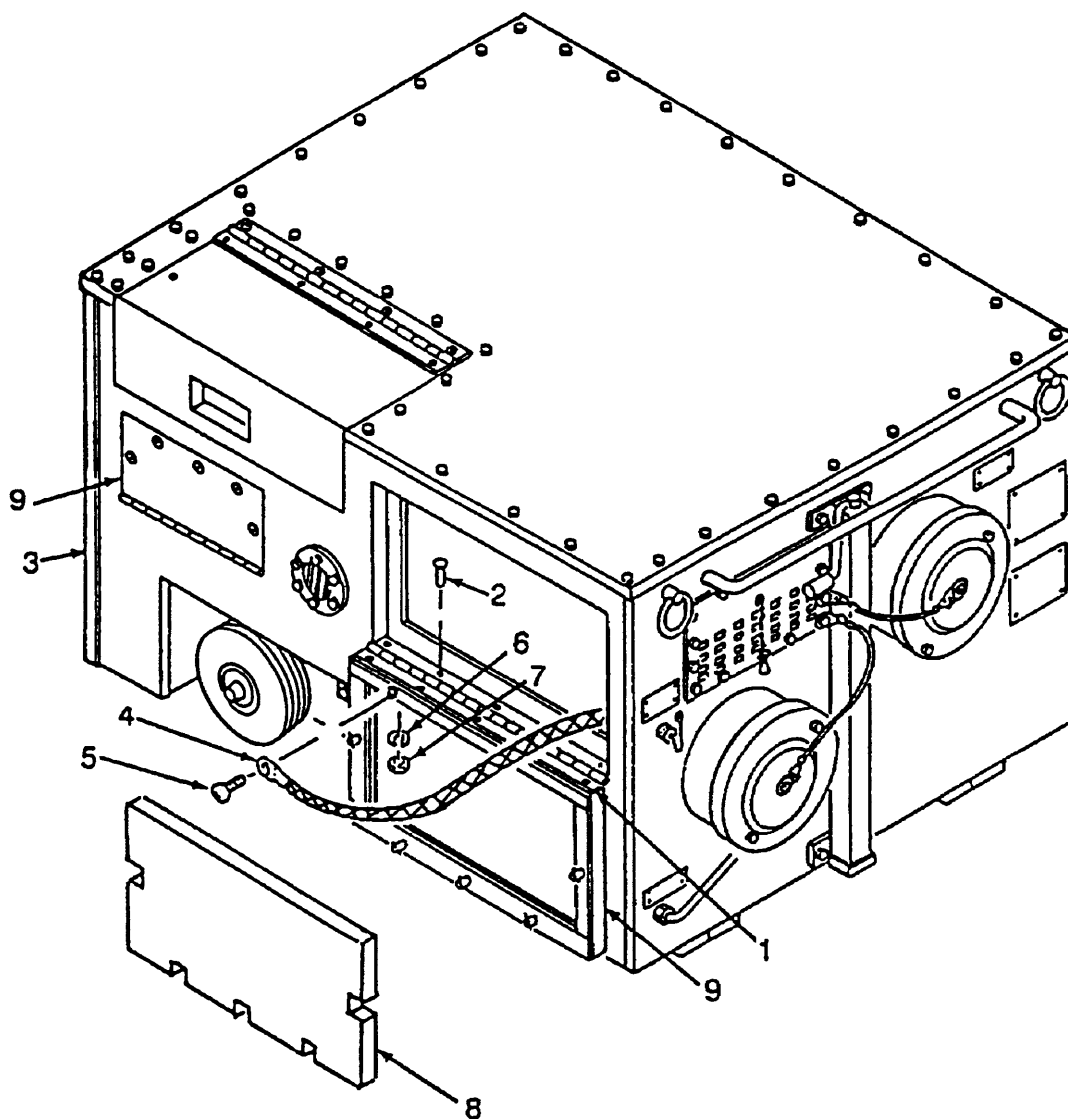

Figure 4-23. Door Installation
- e. Installation (Refer to Figure 4-23)
- (1) Install hinge (1) and rivets (2) on frame (3).
- (2) Install ground wire (4), screw (5), lockwasher (6) and nut (7).
- (3) Install insulation (8)(Item 56, App F).
- (4) Close door (9).